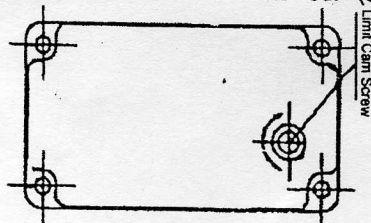

Fig. 1
- (1) Extend the actuator a little more (We recommend 6-8 mm). This is where you want to set the upper limit.
- (2) Use a proper cross screw driver to loosen the limit cam screw, but do not take it out! (See Fig. 1)
- (3) Use a flat screw driver (or just use a coin) to turn very slowly the upper limit cam counter clockwise (i.e. moving towards the upper limit switch) until you hear (you can also feel it) a "CLICK" sound from the limit switch.